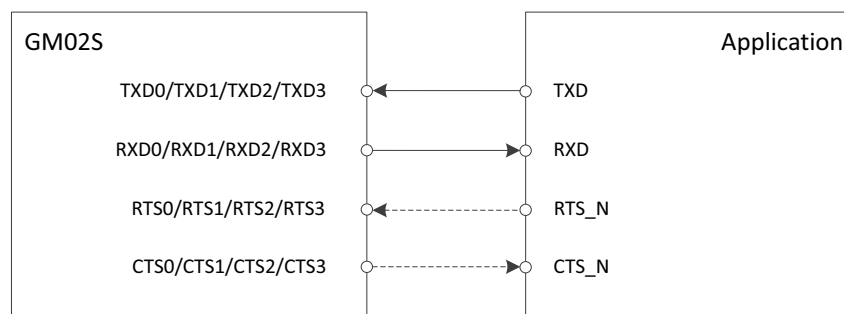

Figure 2-6: UART Convention and Flow Control
- CTS0, CTS1, CTS2, CTS3: resp. UART0, UART1, UART2, UART3 flow control, Clear-To-Send, active low, of the GM02S. To be connected to the CTS of the remote UART device. Provision a 1 kOhm pull-down on CTS pin when flowcontrol is not used. If it is connected to an external component (like a RS232 driver), the user should make sure that this component will present a low level to the GM02S. See Figure 2-6.
- RTS0, RTS1, RTS2, RTS3: resp. UART0, UART1, UART2, UART3 flow control, Ready-To-Send, active low, of the GM02S. To be connected to the RTS of the remote UART device. See Figure 2-6.
Figure 2-6 represents the typical implementation for the hardware flowcontrol.